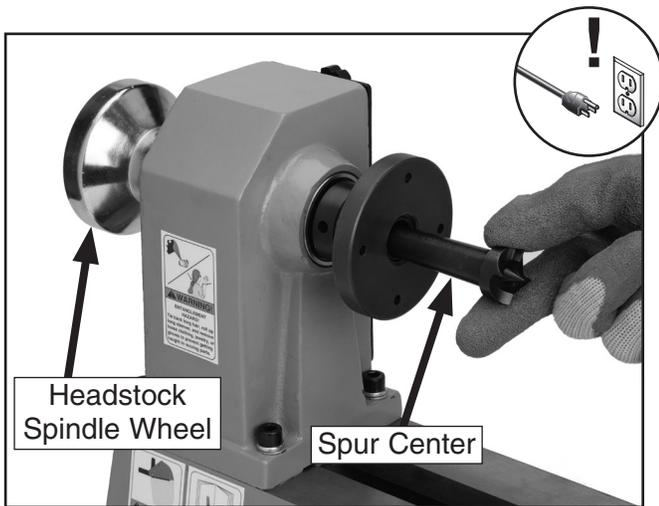

Figure 15. Inserting spur center into spindle.
2. Insert the tapered end of the center into the spindle, and push it in quickly and firmly (**Figure 15**).